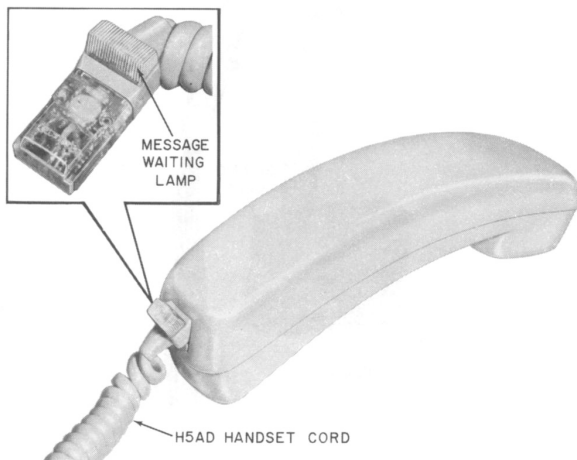

Fig. 8—H5AD Handset Cord (Message Waiting Lamp)
3.10 If message waiting lamp feature is required, an H5AD cord must be used (Fig. 8). The lamp equipped end of the cord plugs into the hand telephone set.